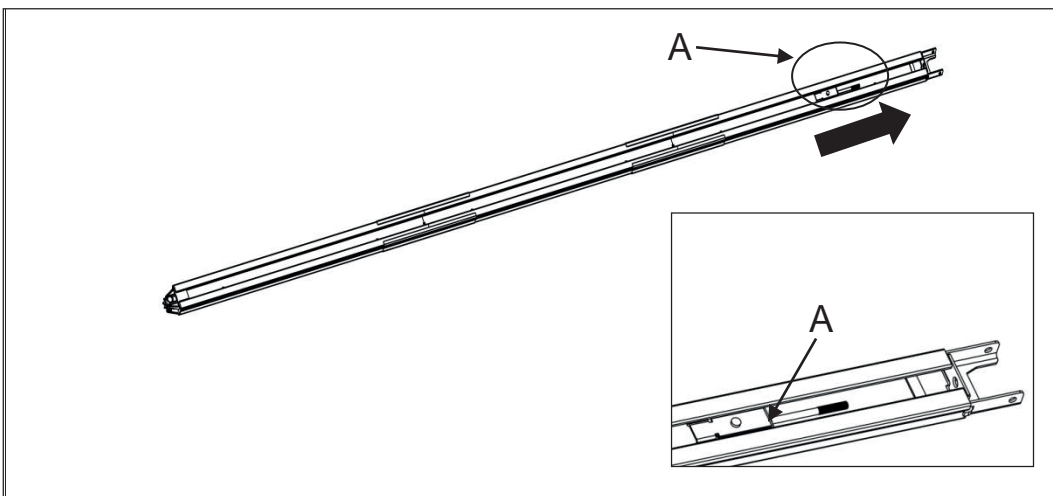

Fig. 9
4. As Fig.9, pull the screw rod " A " along with inner chain to the end of top rail ;